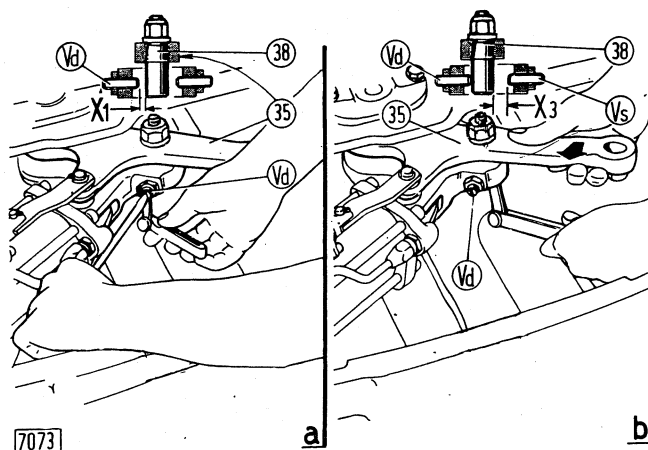

Fig. 7 - Checking and adjusting the control valve spool travel.
- make sure, by manoeuvring the steering lever (35) back and forth that the same stops in the central position corresponding to the neutral setting of the control valve spool. Under these conditions, check with a feeler gauge that the gap (X_1 , Fig. 7, a) between the adjustment screw (Vd) and pin (38) measures 1.5 mm (0.059 in).